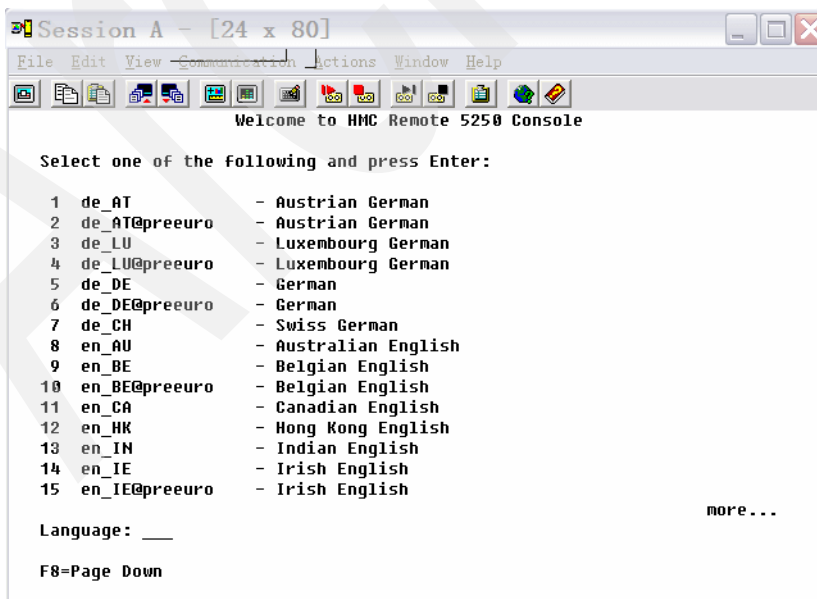

Figure 2-6 Remote 5250 console - select language
3. When the window in Figure 2-6 prompts you, select the correct language and press Enter.